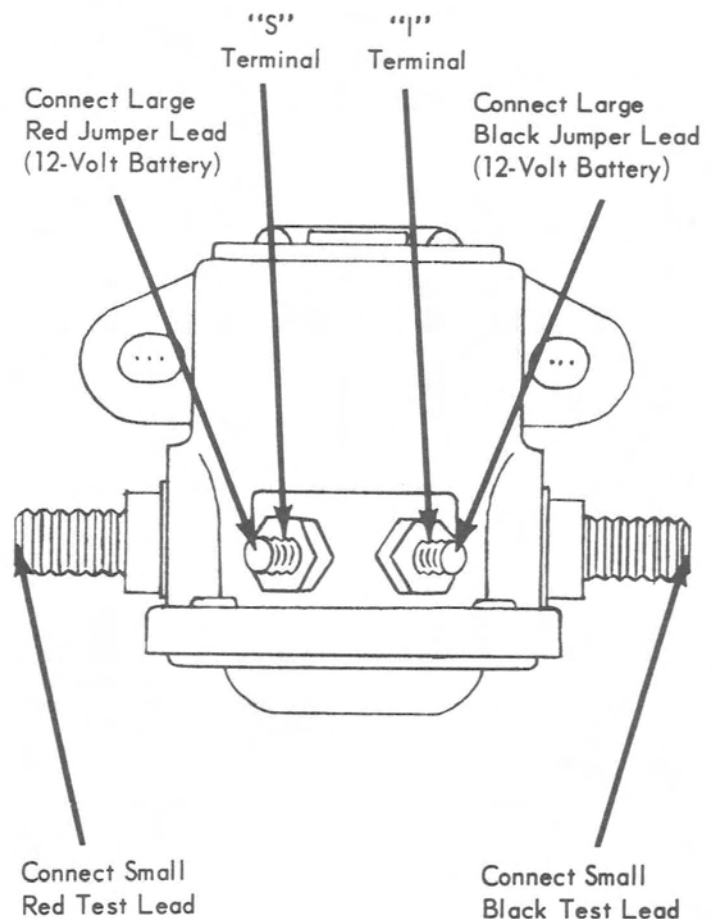

Figure 4. Testing Starter Solenoid
2. Connect small red test lead to one large terminal of solenoid and connect small black test lead to other large terminal as shown in Figure 4.